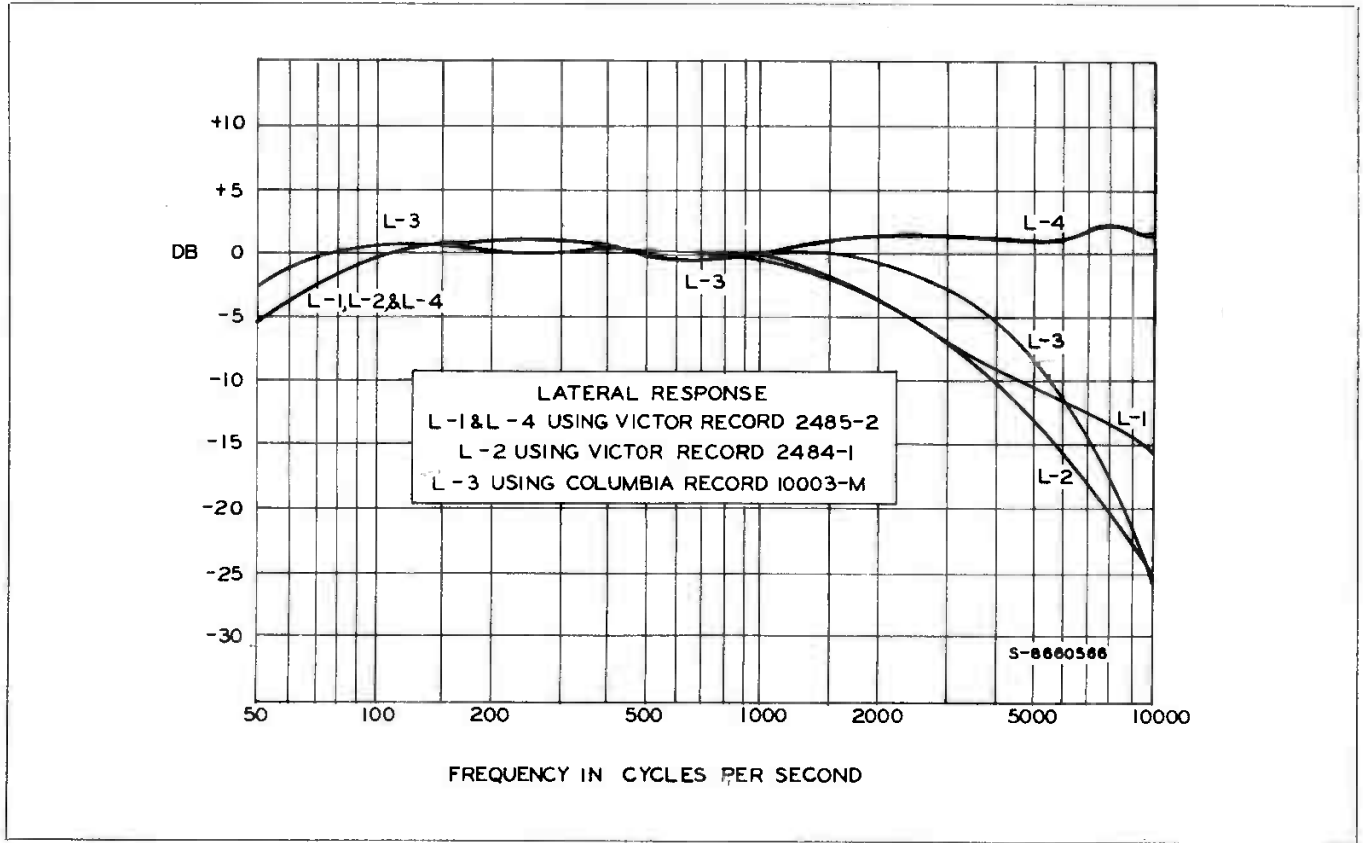

Figure 7—Frequency response for lateral switch positions using test records.
29. The filter switch dial has six positions, four for lateral reproducing and two for vertical reproducing. Refer to figures 7 through 10 for the various response curves using record and oscillator inputs. Figure 11 illustrates the connections to be made to secure the oscillator curves.